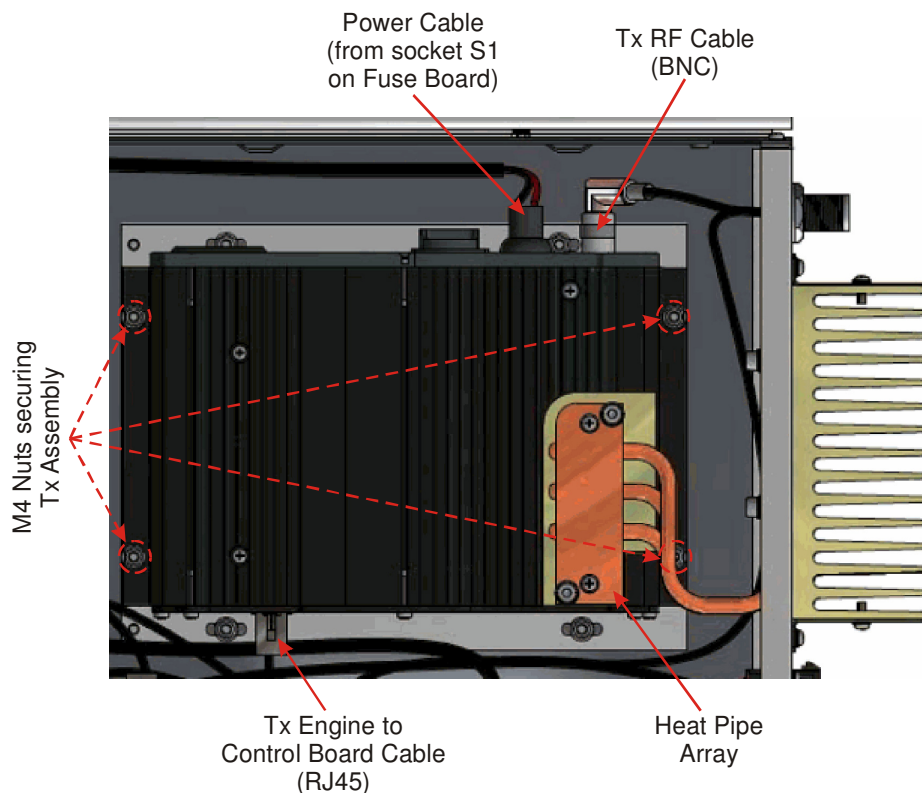

Figure 11. Removal of Tx Assembly.
4. On the Tx Assembly, referring to **Figure 11** below, carry out the following: